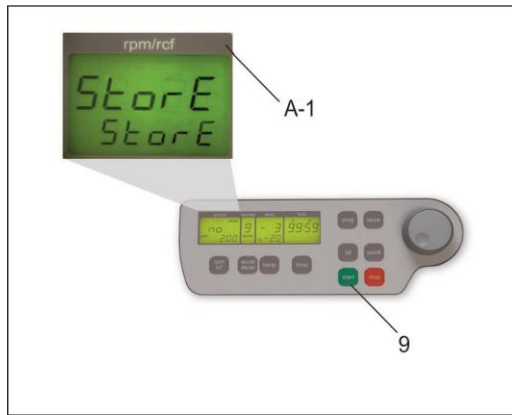

Figure 7
- All changed settings must be confirmed by the key "start" (9). A confirmation screen will appear with the word "store" in the display box "rpm/rcf"(A-1) - Only then the pre-selections are valid (see Figure 7)!